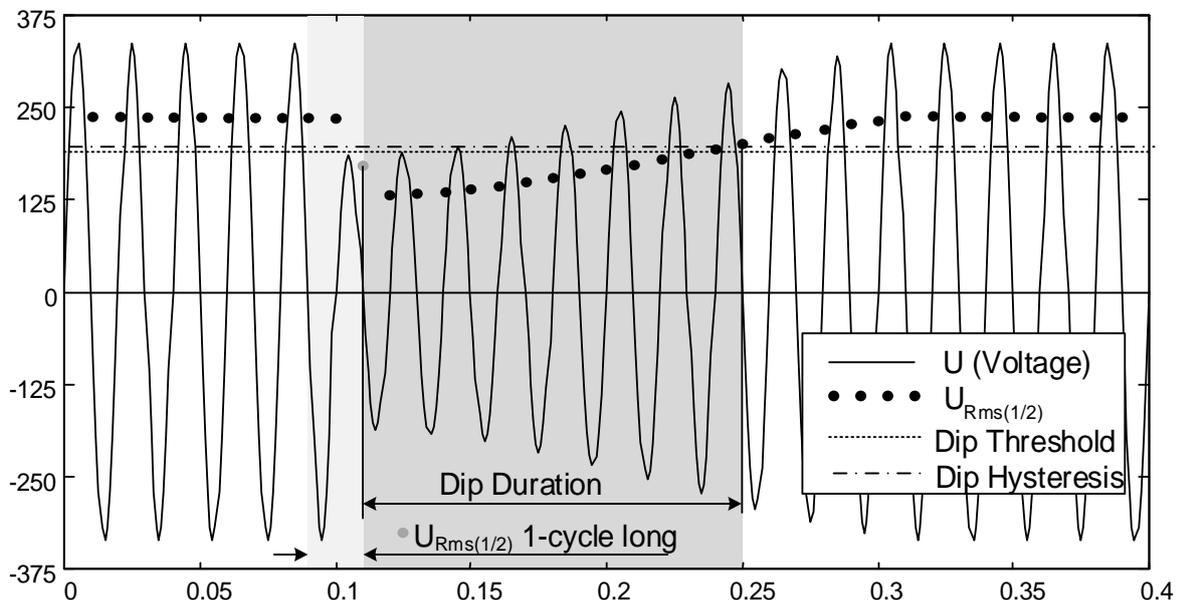
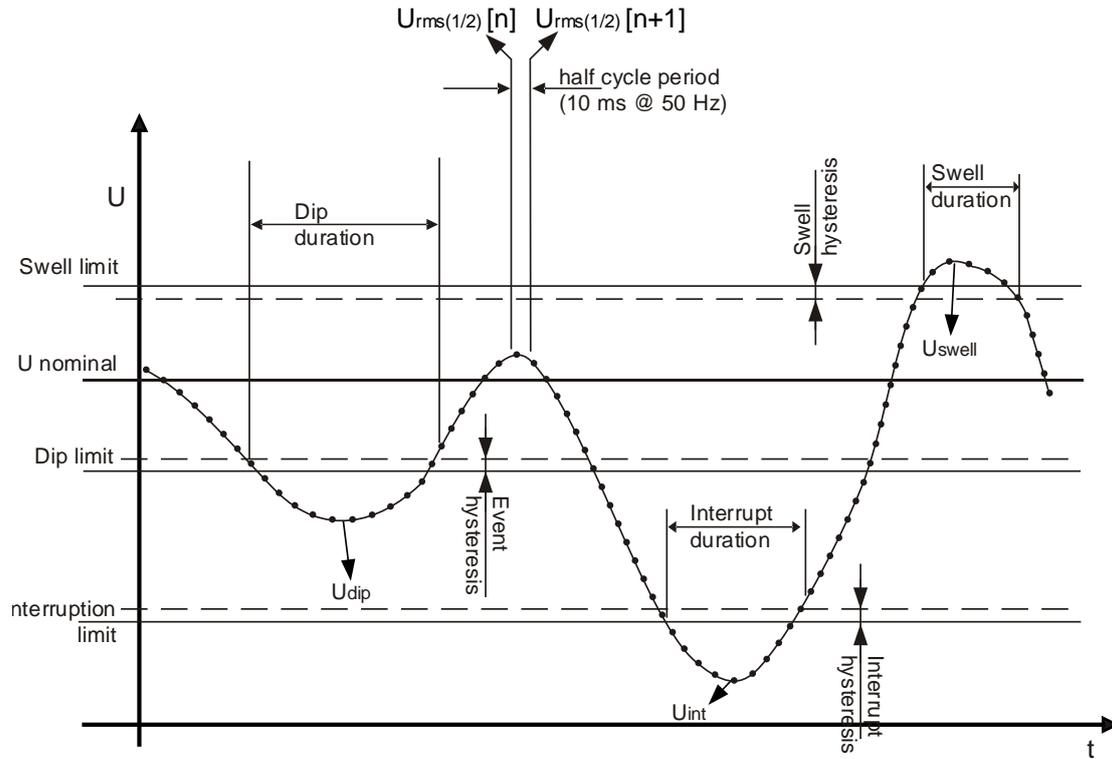

Figure 5.9: $U_{Rms(1/2)}$ 1-cycle measurement
Figure 5.10 Voltage events definition
- On single-phase system (Connection type: 1W), a voltage dip begins when the $U_{Rms(1/2)}$ voltage falls below the dip threshold, and ends when the $U_{Rms(1/2)}$ voltage is equal to or above the dip threshold plus the hysteresis voltage (see Figure 5.10 and Figure 5.9),.
- On single-phase system (Connection type: 1W), a voltage swell begins when the $U_{Rms(1/2)}$ voltage rises above the swell threshold, and ends when the $U_{Rms(1/2)}$ voltage is equal to or below the swell threshold plus the hysteresis voltage (see Figure 5.10 and Figure 5.9),
- On single-phase system (1W), a voltage interruption begins when the $U_{Rms(1/2)}$ voltage falls below the voltage interruption threshold and ends when the $U_{Rms(1/2)}$ value is equal to, or greater than, the voltage interruption threshold plus the hysteresis (see Figure 5.10 and Figure 5.9),